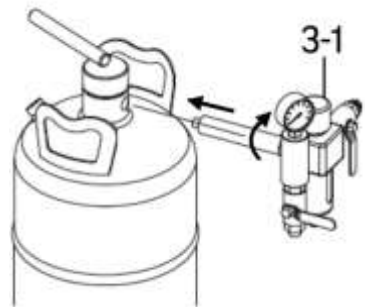

Fig. 3
5. Thread the now assembled air inlet assembly (#3-1) into the top of the tank (Fig. 3).